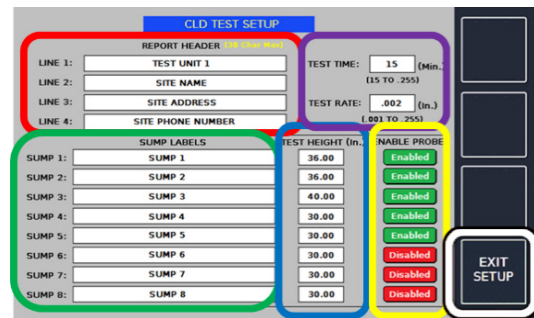

Figure 5.0
- Input details in the REPORT HEADER fields on lines 1-4 (RED; Figure 5.0).
- Fill in the SUMP LABELS (GREEN; Figure 5.0) for Sump 1 (e.g., "Regular Sump" or "Dispenser 1").
- Enable probes (YELLOW; Figure 5.0). By default, each probe is listed as disabled (red-colored buttons). Press to toggle button to enable (green-colored buttons).
- Measure the testing liquid (water) height in inches (for instance, a stick reading). Enter that value under TEST HEIGHT (BLUE; Figure 5.0) for each sump.
3. Program TEST TIME and TEST RATE (PURPLE; Figure 5.0).
- Press the EXIT SETUP button (WHITE; Figure 5.0). The CLD tester will ask you to wait while it saves the parameters during a brief reboot.